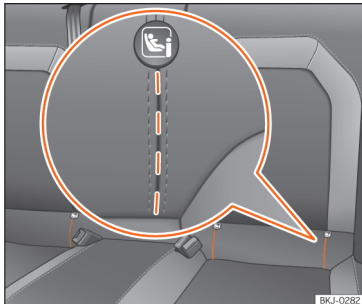

Fig. 38 Rear seat: slots die cut to access the ISOFIX / iSize securing rings.
The location of the ISOFIX or i-Size anchor points is indicated by a symbol »» Fig. 38. In some vehicles, the rings are secured to the seat frame and, in others, they are secured to the rear floor.
- First open the cut-out section behind the marked grooves to access the retaining rings »» Fig. 38.